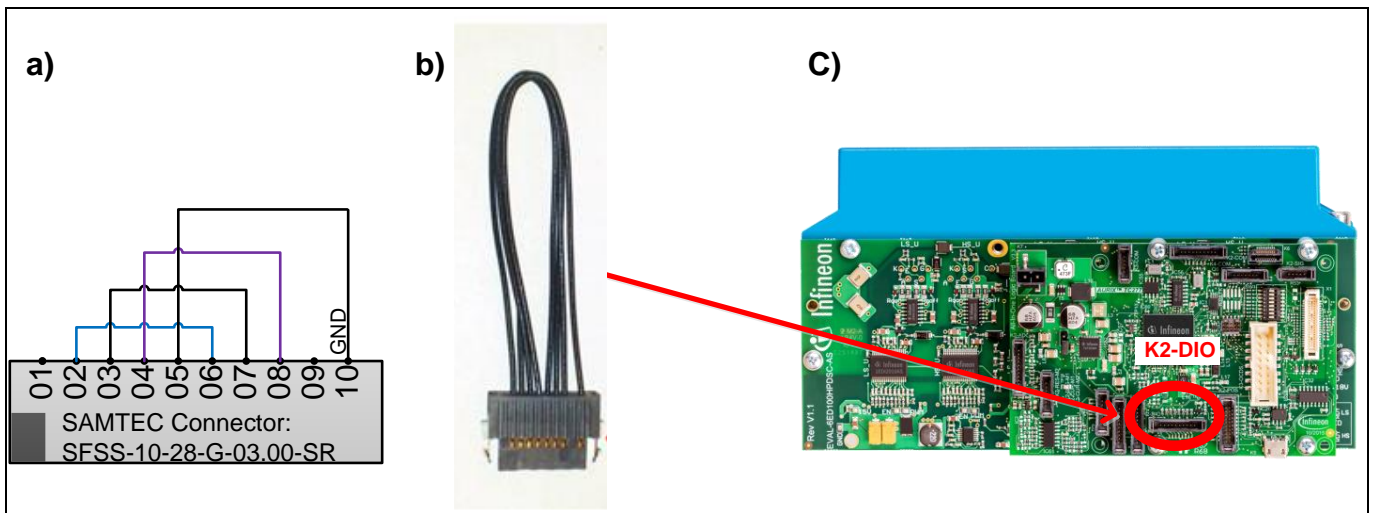

Figure 5 Required DEMO-ENABLE-PLUG. Circuit (a). Example (b). Plug has to be connected into the logic board connector K2-DIO (c).
- 3) Place DEMO-ENABLE-PLUG (see Figure 5).